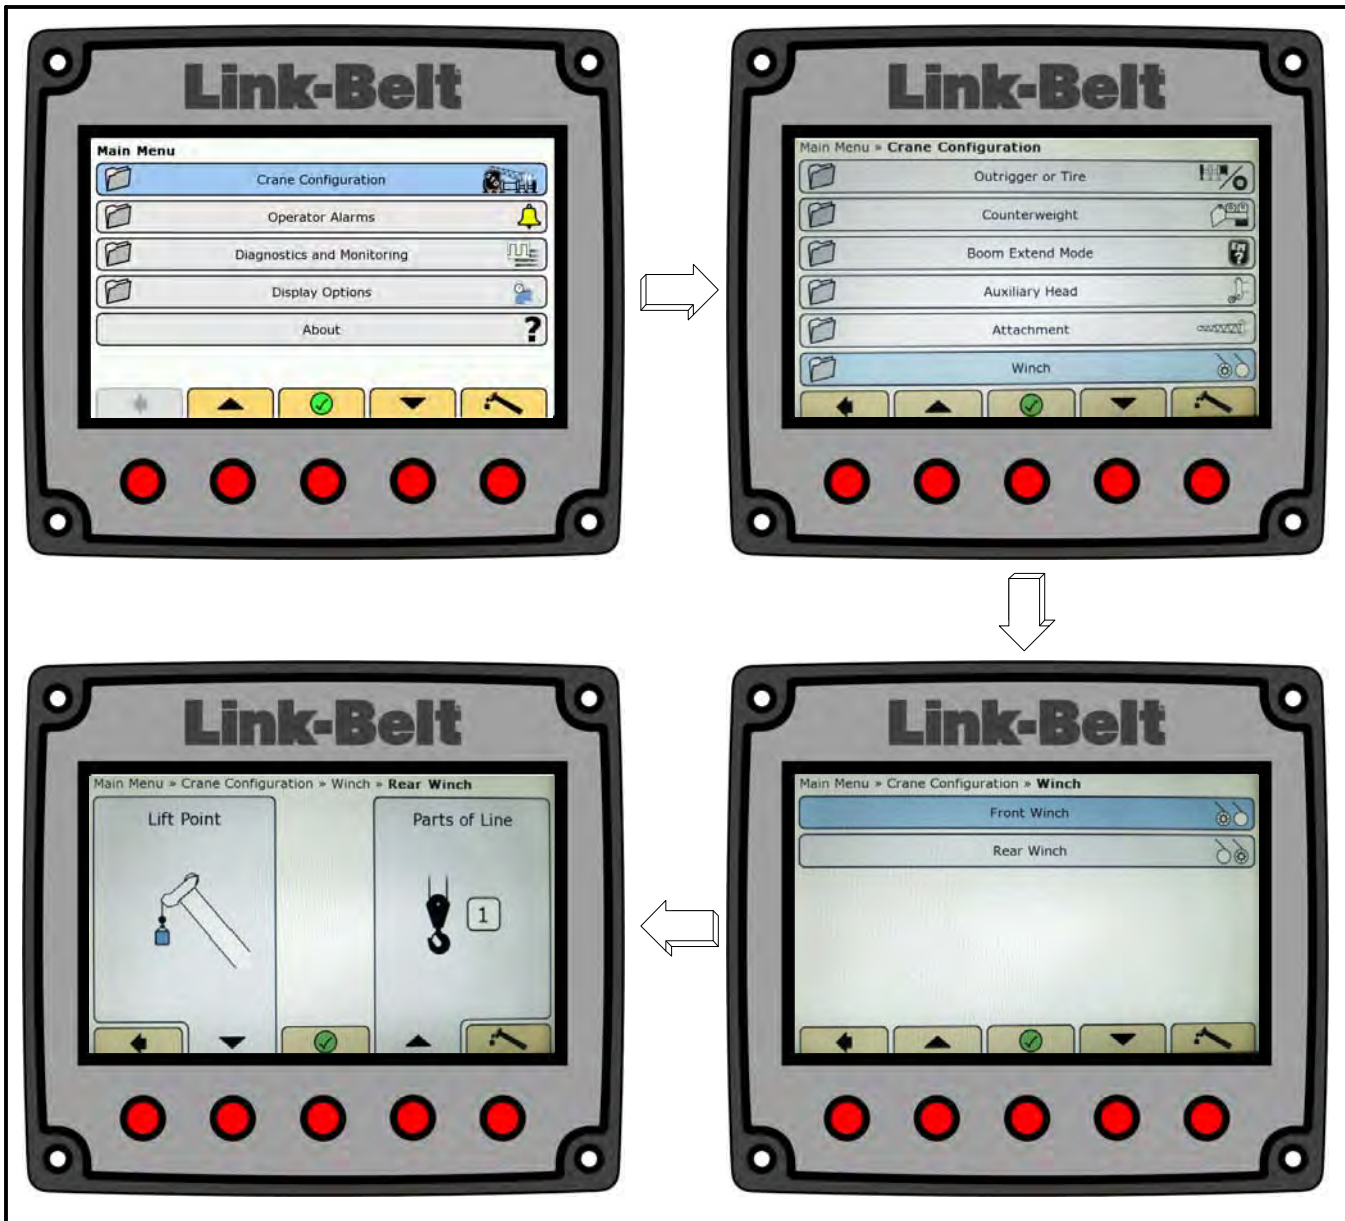

Figure 1–84
19. On the Crane Configuration menu, scroll to Winch, and press the OK/Enter button  to display the front and rear winch. Refer to Figure 1–84.